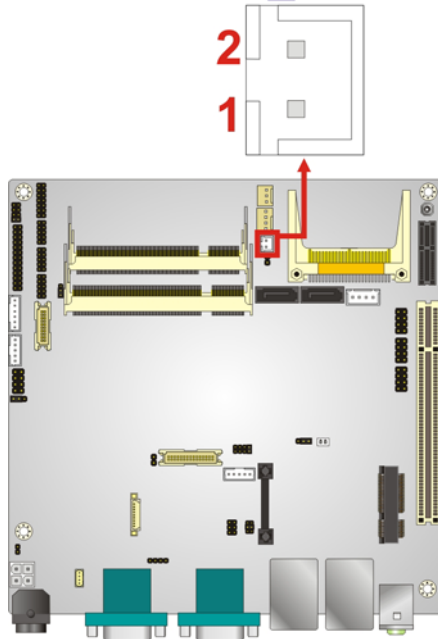

Figure 3-19: SATA Power Connector Locations
- CN Location:** See Figure 3-19